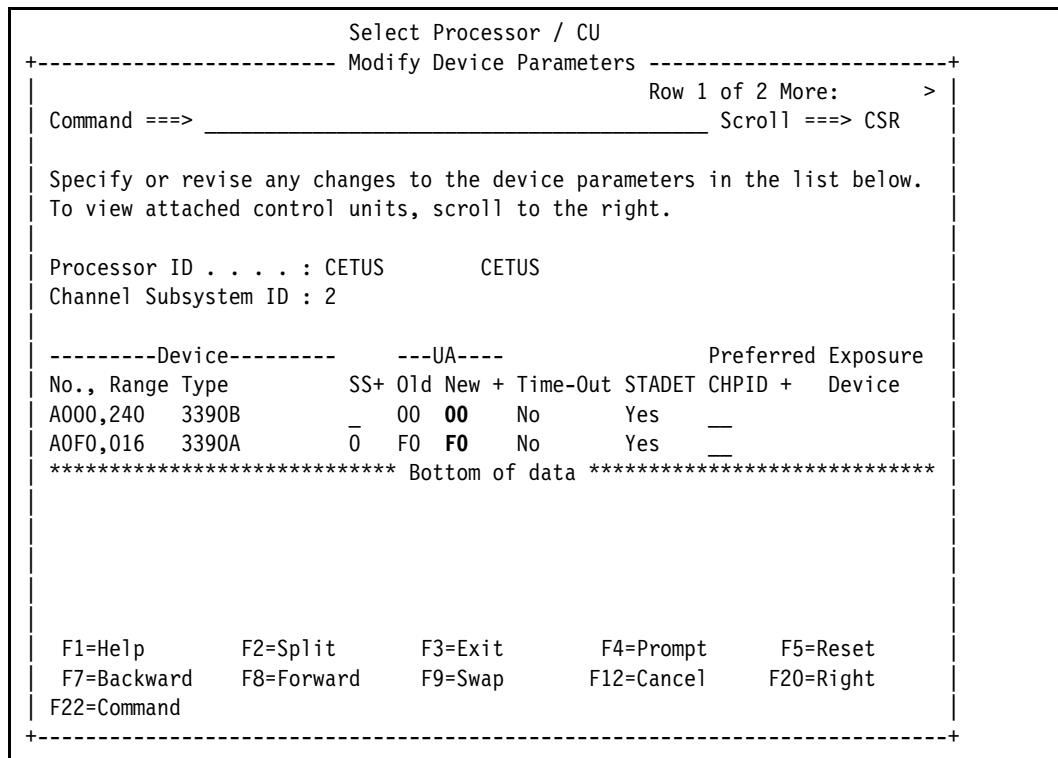

Figure 12-11 Control units: Modify Device Parameters
7. In our example, we do not change the defaults proposed by HCD (Figure 12-11).